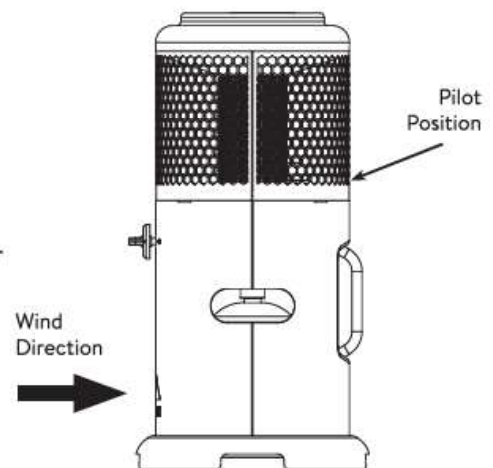

Fig. 4
1. Position the 360-Degree Portable Propane Heater such that the Pilot is opposite the direction that the wind is coming from. See figure 4.